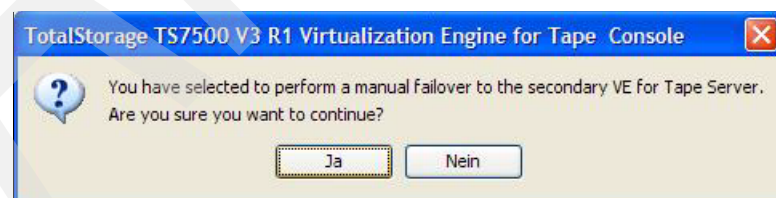

Figure 12-20 Takeover confirmation
2. In the Failover confirmation window (Figure 12-20), click **Yes**.